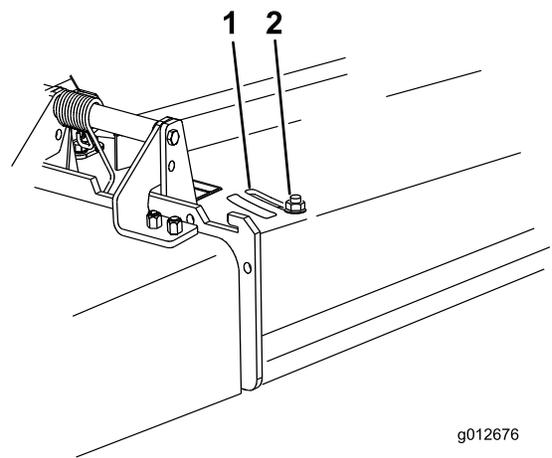

Figure 14
3. Loosen the nut (Figure 14).